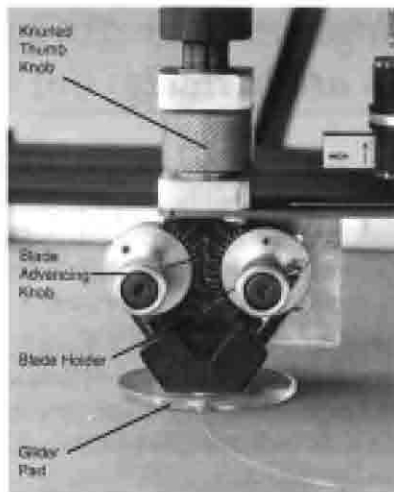

Figure 10
- Start with the **Handle** at the 9 o'clock position. Rotate the **Knurled Thumb Knob** to lower the **Blade Holder** so that the **Glider Pad** lightly touches the mat. The clear plastic disk contacts the mat and provides a smooth friction-free pad. See Figure 10.
- By turning the left **Blade Advancing Knob**, insert the left blade into the mat until it just starts to cut (about setting 2) while you slowly rotate the **Handle** counterclockwise. Rotate the **Handle** one complete rotation until the blade is 1" beyond its original insertion point. Again, while rotating the **Handle**, turn the left **Blade Advancing Knob** to insert the blade deeper into the mat (about setting 3). Make one complete rotation. (Two rotations will usually cut through the mat; the second cut should slightly cut into the slip sheet.) See Figure 10.